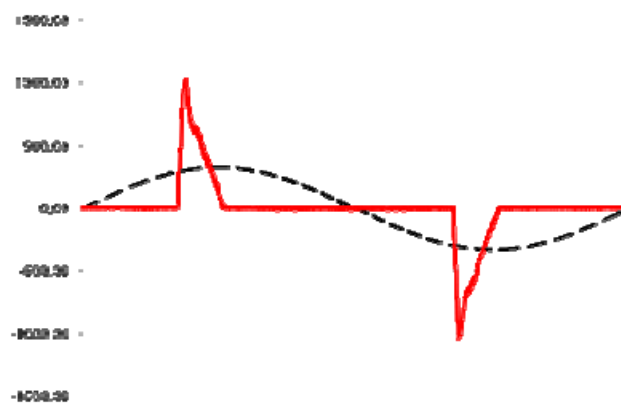
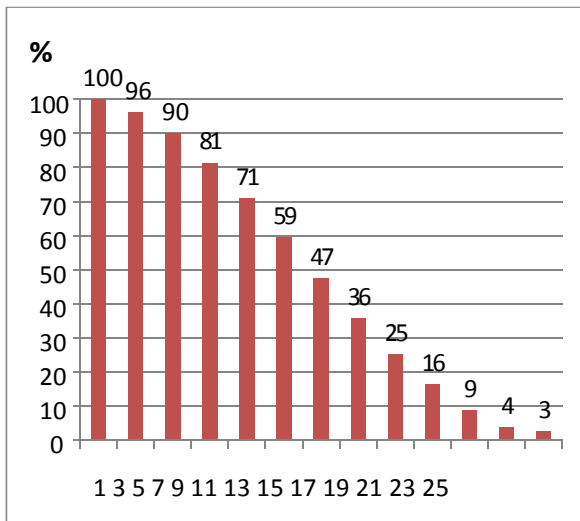

Figure 8 Current from a LED tube with a low power factor
Figure 10: Harmonics in chart or table form
Due to the rise of power electronics, there are many consumers who do not absorb sinusoidal power from the grid. A typical example of a nonlinear current is shown in Figure 8. This is the flow of an LED tube but there are many consumers with such a waveform (for electricians: see footnote³).
Usually, the harmonics are set as in Figure 10, the size of each harmonic being shown in graph or in tabular form. Figure 10 shows the harmonics of the current through the LED tube in Figure 8 (the phase angle of the harmonics is usually omitted; for I_1 the measured phase angle is 8° in this example).
For example, take the LED TL of Figure 8. Suppose we connect this LED TL to a pure sinusoidal power of 230V. Since the mains voltage is pure sinusoidal (and thus does not contain harmonic components) the power is equal to:
The current of the LED tube in our example is (see Figure 10 for the values):
- A power of 2000 W, the current being strongly deformed (as in Figure 8) with a THD_i of 130% and a $\cos \varphi_1 = 1$.